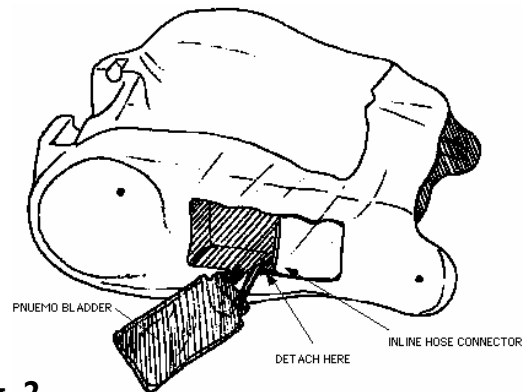

Fig. 2
- Remove pneumo pad from side of torso. (Figure 2)